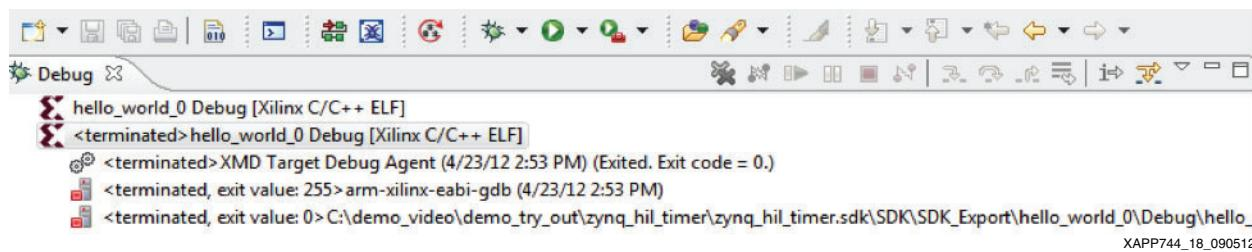
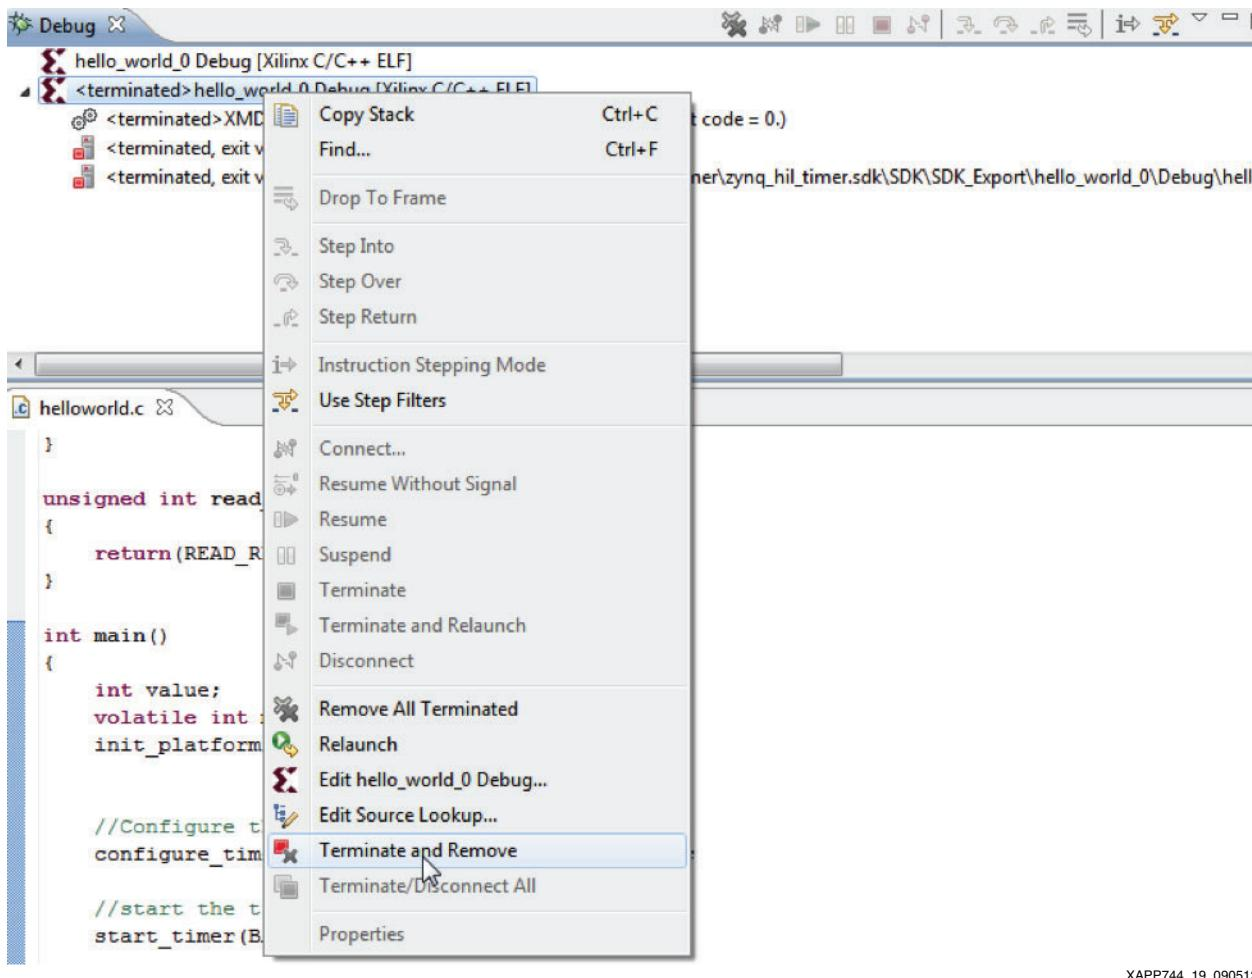
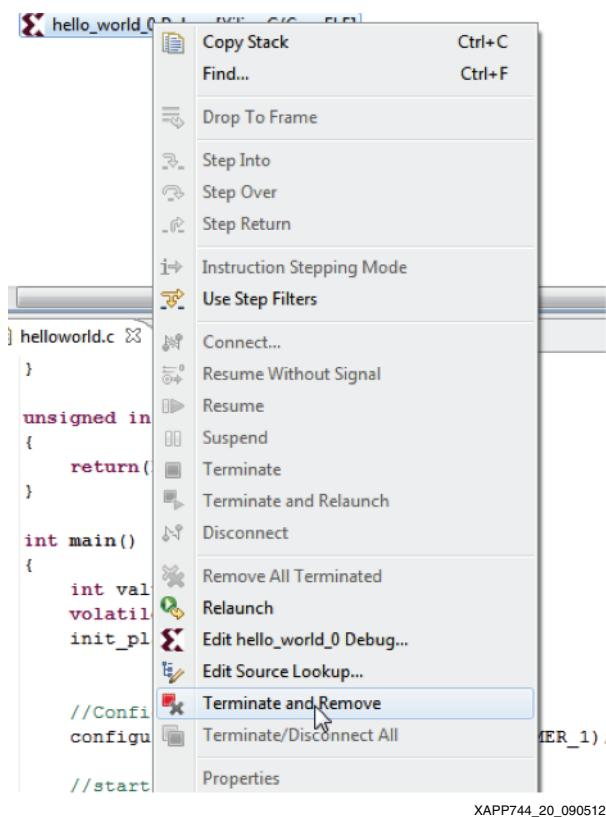

Figure 18: Terminated Application
Figure 19: Terminate and Remove Example 1
Figure 20: Terminate and Remove Example 2
3. In the SDK tool, in the Debug view, Click the name of the application being debugged. Right-click the application name and click **Terminate and Remove**. Do this for all of the applications in the Debug window as shown in Figure 18, Figure 19, and Figure 20.